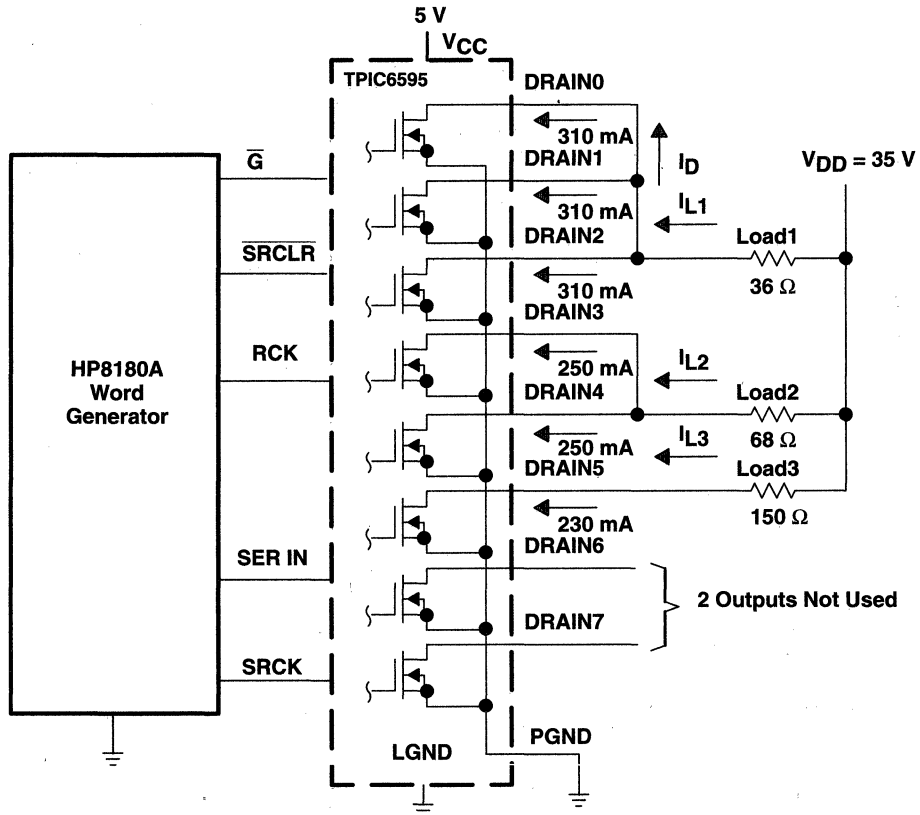

Figure 6. Parallel Operation of Output Switches for Extended Current Capability
If all eight output switches are not needed for an application and a continuous output load current greater than 0.25 A is required, the switches can be connected in parallel for extended current capability. The current-sharing capability of the switches is demonstrated in a circuit while operating at  $T_A = 40^\circ\text{C}$  (see Figure 6). The individual switch current,  $I_D$ , is determined by equation (5).